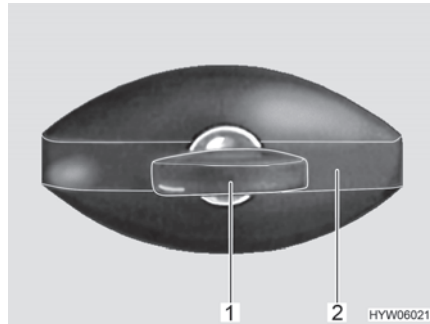

Fig. 35 Flap lock (elliptical-shaped, closed)
- Insert key into locking cylinder (Fig. 35,1) and turn a quarter turn in an anticlockwise direction. The lock handle (Fig. 35,2) snaps out.